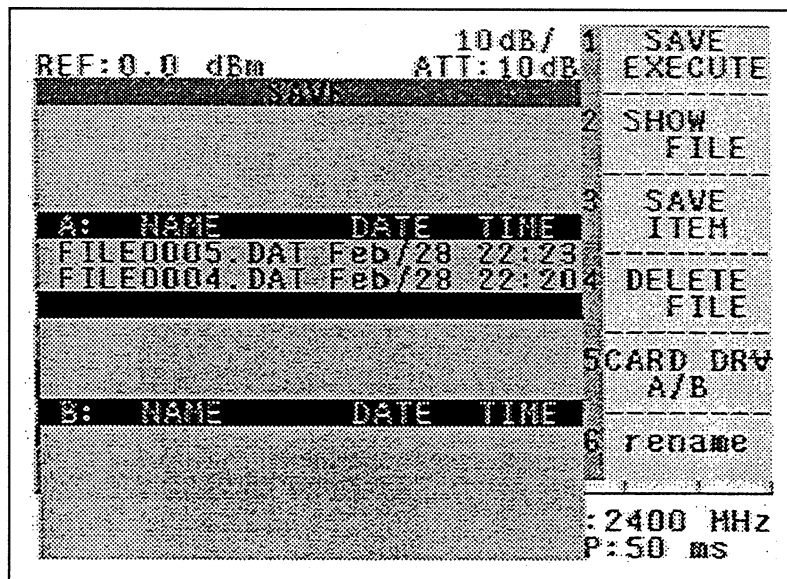

Figure 5-26 SAVE function menu
- ① Press   will bring up the screen shown in Figure 5-26.